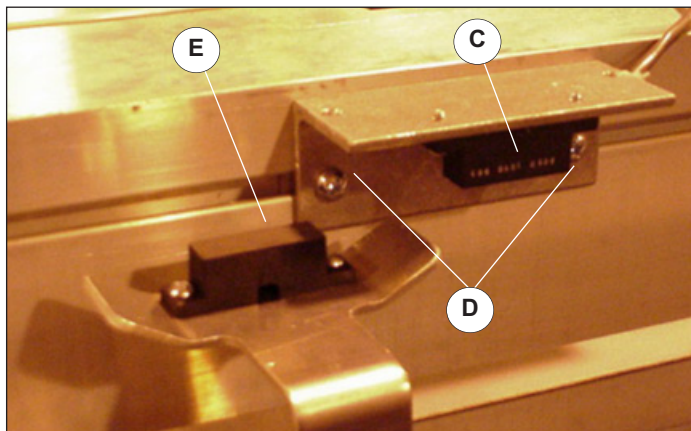

Figure 23.2
1. Limit switches (C) are preset at the factory, but may need to be adjusted, refer to Figure 23.2.
2. To adjust limit switches turn off power, loosen screws (D), slide to the correct position to align with magnet (E), and retighten, Figure 23.2.
3. If the closed limit switch (A) is not adjusted properly and the door overtravels the Torque Detect System can be triggered and the door may cycle 3 times and go into fault. After the problem has been corrected, press the open/reset button to clear the fault.
4. If the open limit switch (B) is adjusted in any direction, the approach limit switch (F) must adjusted accordingly. A distance of approximately: